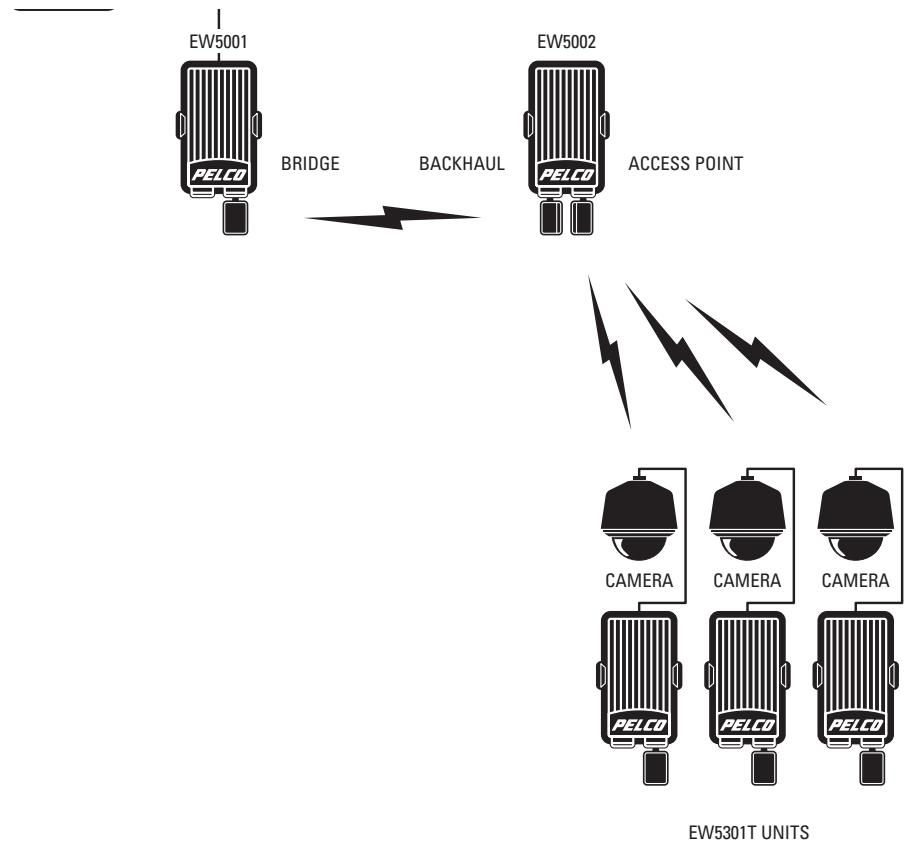

Figure 3. Sample EW5001 Wireless Bridge Application Scenario
- Bridge: The EW5001 provides a wireless link from a cluster of EW5301T video encoders through an EW5002 access point/backhaul to an Endura network in a point-to-point configuration (refer to Figure 3 on page 10). You can install the EW5001 on a building and associate it with an EW5002, which can be associated with a cluster of EW5301T wireless video encoders. Together, the EW5001 and EW5002 support all features that are available to the EW5301T.
Figure 3 shows the EW5001 used as a wireless bridge between an Endura network and an EW5002 with a cluster of EW5301T video encoders.